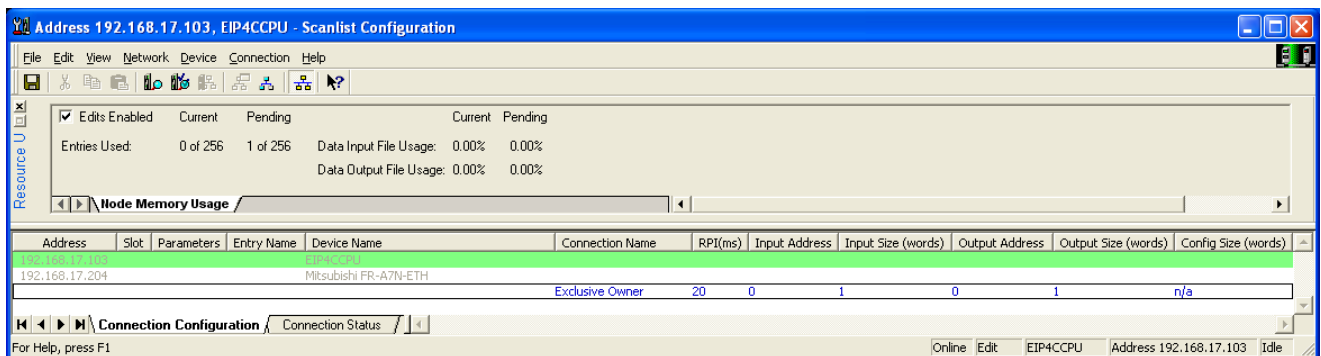

Figure 67: RSNetWorx Inserted a Connection
c) Click OK to add the connection (see Figure 67).